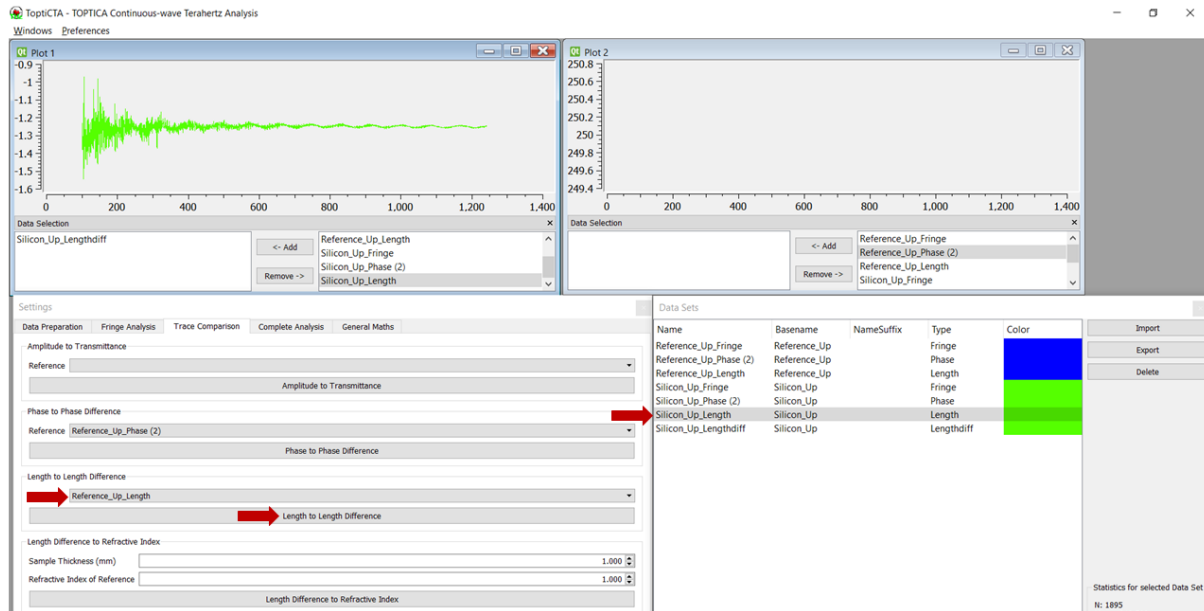

Fig. 14: Calculation of the length difference introduced by the sample in the beam.
10. Select the Trace Comparison tab of the Settings + Analysis Window. Chose the reference length dataset in section Length to Length Difference. In the Data Selection Window, highlight the sample length dataset, then click the **Length to Length Difference** button (Fig. 14). Plot the resulting “Lengthdiff” graph.